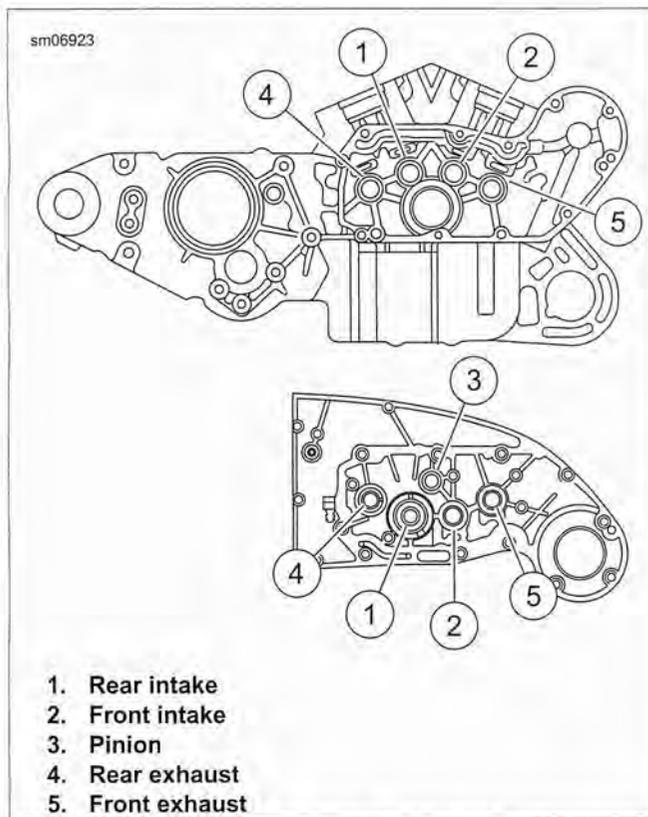

Figure 3-111. Cam and Pinion Bushings
- See Figure 3-111. Measure each bushing and its corresponding cam gear shaft or pinion gear shaft. Replace bushings that exceed service wear limits. Refer to Table 3-33.
1. See Figure 3-111. Using an arbor press, install pinion shaft bushing (16) in gearcase cover (17) so that bushing is flush with cover boss. There is no need to orient this particular bushing in any specific position of rotation within the gearcase cover bore.